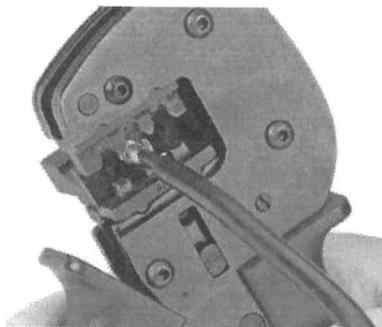

Figure 6
- ◇ 将电缆线的剥线端插入插针/插套的开口内直到电缆线的绝缘层接触到插针/插套开口处，最后完全压紧压接工具（如图 6、7）。
Insert the stripped wire into the male/female terminal until the cable insulation touches the opening of the male/female terminal. Press the crimping tool completely (Fig. 6&7).